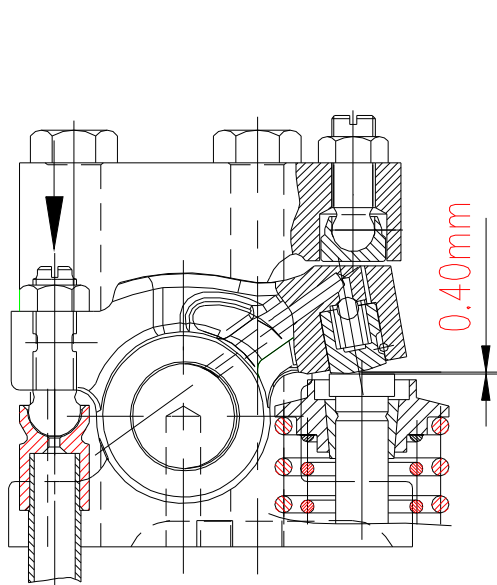

Fig. 1 Total valve gap of 0.4mm for exhaust valve in cold state
2. As shown in Fig. 1, under the condition that adjustment bolt assembly (Ser. No.2) is loosened, and oil seal surface of rock arm of the exhaust valve is not closely pressed, place a 0.4mm feeler gauge between the piston of exhaust valve rock arm (Ser. No. 5) and the end face of exhaust valve rod or the valve nut, and adjust the valve gap adjustment screw (Ser. No. 10) at the end of the valve tappet until total gap of the valve reaches to 0.4mm, then tighten the locknut indicated with the arrow in the said figure.